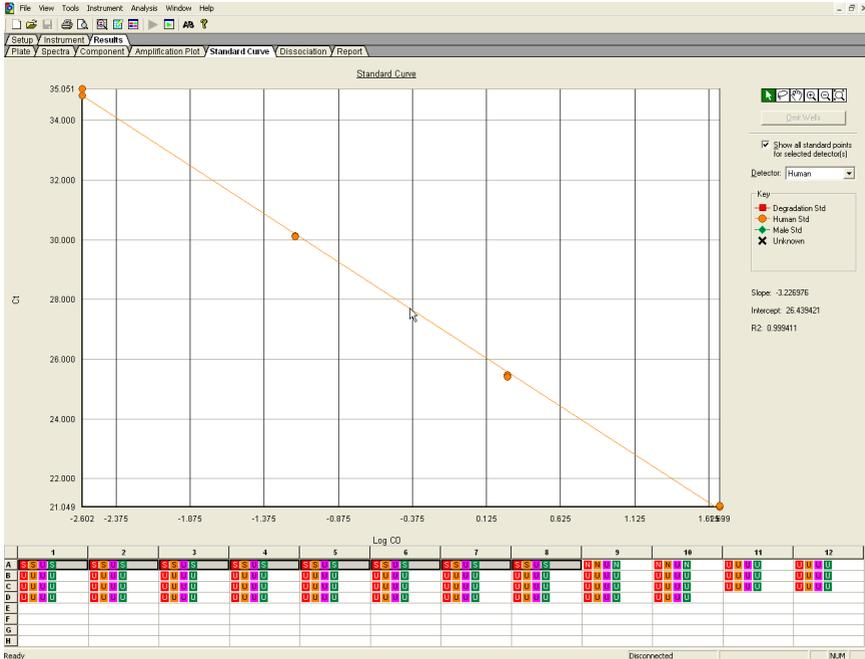

Figure 40. Standard curve.
- To view the standard curve, select the **Standard Curve** tab (found in the **Results** tab). View the C_T values for the quantification standard reactions and the calculated regression line, slope, y-intercept, and R^2 values for QPP_FAM, QPP_ATTO550, and the QPP_ATTO647N channels (Figure 40).